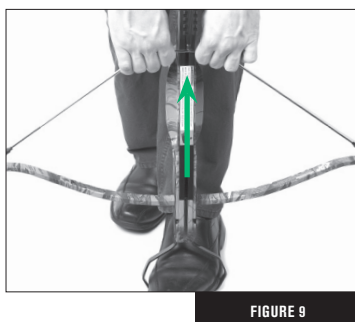

FIGURE 9
3. With a foot firmly grounded in the stirrup, pull the stringer upwards until it locks securely into the trigger mechanism (Fig. 9).